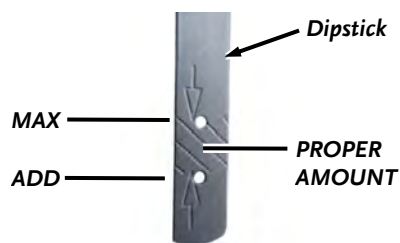

Figure 11
4. Fully install the Dipstick and then remove it to recheck the Oil level (Figure 11). Continue adding a small amount of oil at a time, rechecking the Dipstick until the oil level is in middle of the hatched area (between the ADD and FULL holes in the Dipstick). Be careful not to overfill.